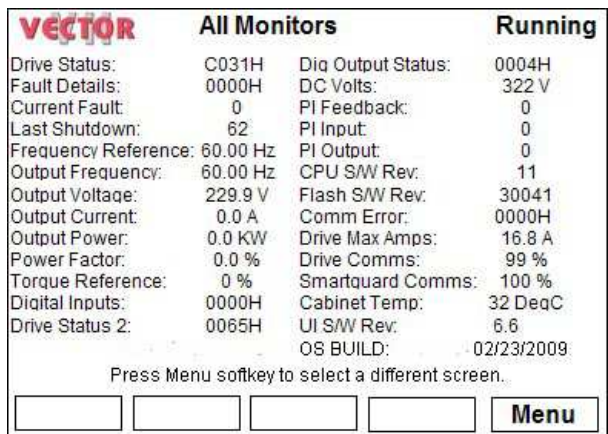

Figure 5
- All Monitors Screen gives snapshot of drive and downhole sensor status. (See Figure 5)